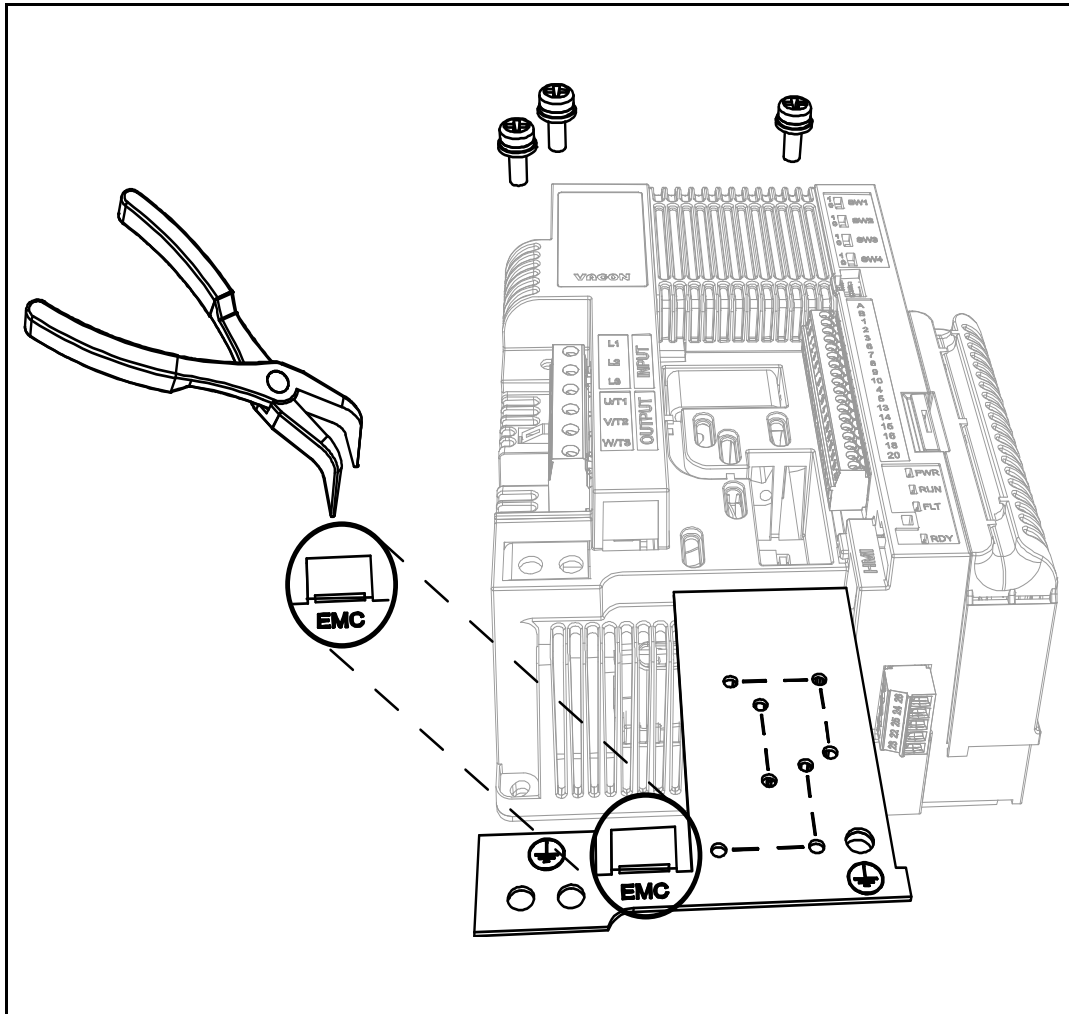

Figure 29. Changing of the EMC class in MS2.
**2** Remove the EMC plate from the unit. Then turn up the lamella with pliers to disconnect the EMC plate from the ground. See Figure 29.